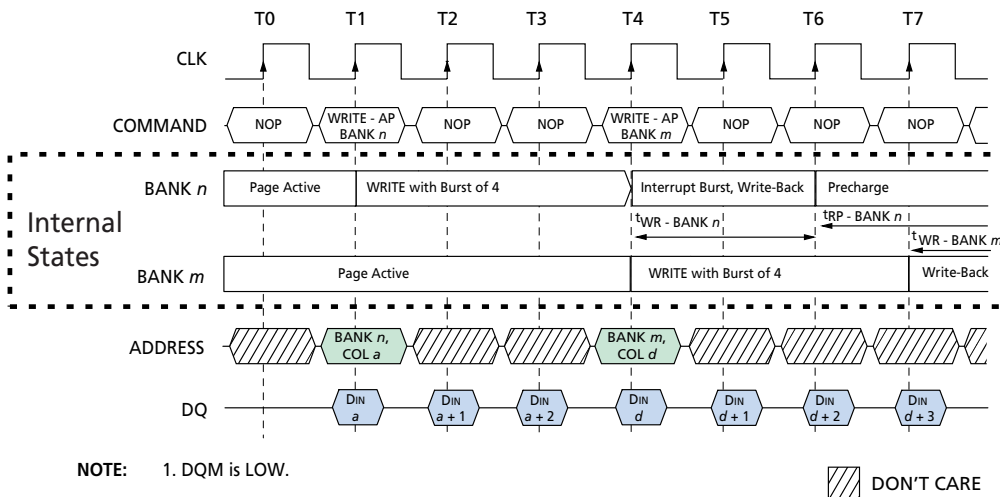

Figure 27
- Interrupted by a WRITE (with or without auto precharge): A WRITE to bank *m* will interrupt a WRITE on bank *n* when registered. The PRECHARGE to bank *n* will begin after t_{WR} is met, where t_{WR} begins when the WRITE to bank *m* is registered. The last valid data WRITE to bank *n* will be data registered one clock prior to a WRITE to bank *m* (Figure 27).